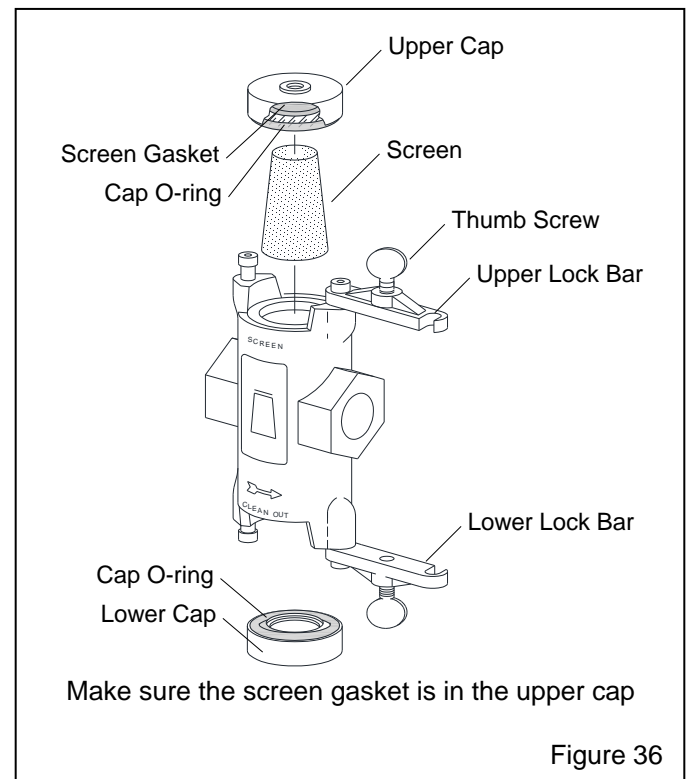

Figure 36
7.5 Abrasive Trap, Refer to Figure 36
7.5.5 Install the screen in the top section. The smallest diameter end of the screen must face up as shown in Figure 36.